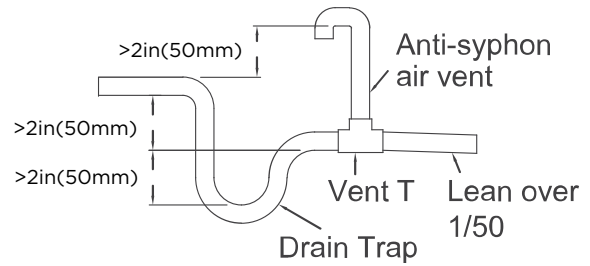

Fig. 25 — Drain Trap
- Figure 25 shows how to trap or plug all drains during right-hand discharge.